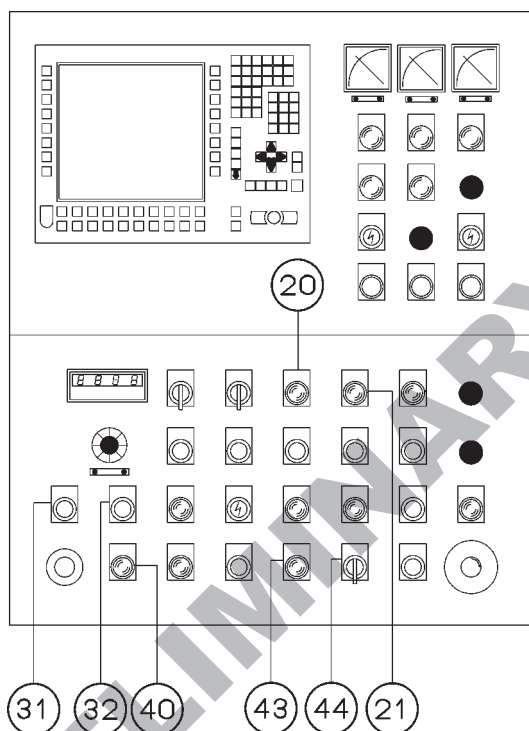

Fig. XI-1
- 9) Press the "MAIN HYDRAULIC POWER UNIT START" button (pos. 20, Fig. XI-1) and the "SAW HEAD START" button (pos. 21, Fig. XI-1).
- 10) Using the "JOG FORWARD-0-BACK" selector (pos. 44, Fig. XI-1), translate the carriage to the start L.S. (pos. 2 fig. XI-1) and perform 2 or 3 cuts using the illuminated yellow "MANUAL CUT" button (pos. 40, Fig. XI-1). The cutting speed is shown in the main page. If necessary, modify the cutting speed using the corresponding buttons (pos. 31-32, Fig. XI-1) and perform a further manual cut to check the speed.
- 11) Press the "CARRIAGE START" button (pos. 43, Fig. XI-1): the carriage will gradually accelerate to the set simulation speed. Using keys K15 and K16 you can then increase or reduce the set speed in increments/decrements of 10 m/min.
- B) Press the “Main power unit start” button (pos. 20, Fig. XI-1) and “Saw head start” button (pos. 21, Fig. XI-1).
- C) Make sure the carriage start position symbol is illuminated . Otherwise move the carriage using the “Jog forward-0-reverse” selector (pos. 44, Fig. XI-1) until the sensor trigger energises the inductive sensor (pos. 12, Fig. VI-1).
- G) Press once the button “carriage start “(pos. 43, Fig. XI-1); the carriage will move slowly to a certain point on the basement; the illuminated button flashes and then turns off.
- H) The button “manual cut” (pos. 40 fig. XI-1) flashes; press it to have the tube cut. The button turns off.
- I) Check or modify the cutting speed using buttons 31 and 32 (Fig. XI-1). The cutting speed is displayed on the display.
- L) Press again the illuminated “ carriage start “ button (pos. 43 fig. XI-1) the button illuminates and the carriage is ready to cut on automatic mode at the length set.